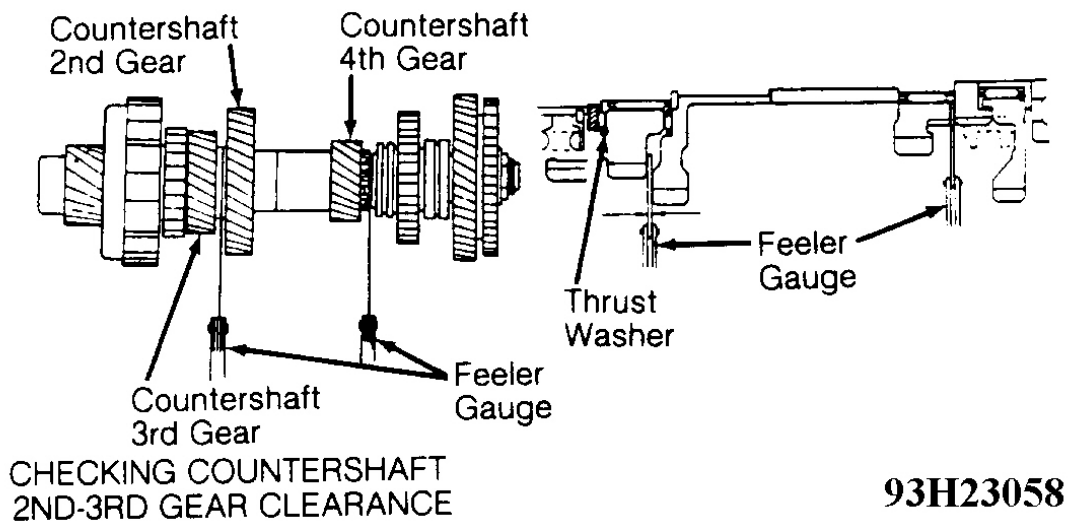

Fig. 21: Countershaft 2nd Gear-To-3rd Gear Clearances
6. Using a second feeler gauge, measure clearance between countershaft 2nd and 3rd gears. See **Fig. 21** . Slide countershaft 3rd gear fully inward (toward countershaft 2nd gear). Measure clearance between countershaft 2nd and 3rd gears. Calculate the difference between 2 measurements to determine countershaft 2nd gear-to-3rd gear clearance. Remove feeler gauges.